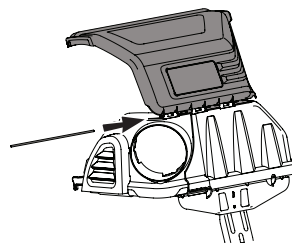

Figure 8
4. From the front of the assembly, line up the tabs on the hood assembly with the tabs at the front of the upper chute support. Slide the hinge pin (711-06701) through the slots beginning at the right side upper chute support of the mounting tabs, as in Figure 8. Push the pin all the way in until it reaches the end-stop.